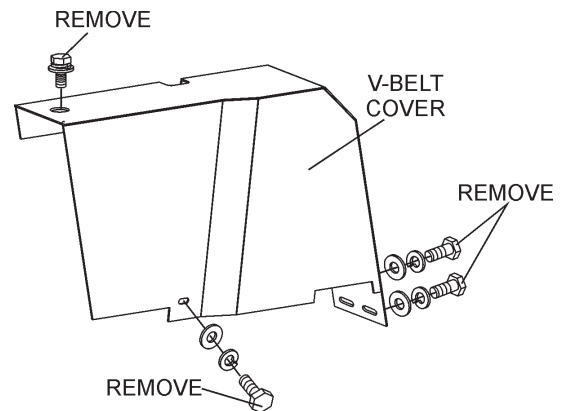

Figure 16. V-Belt Cover
1. Remove the bolts that secure the V-belt cover (Figure 16) to the saw frame.